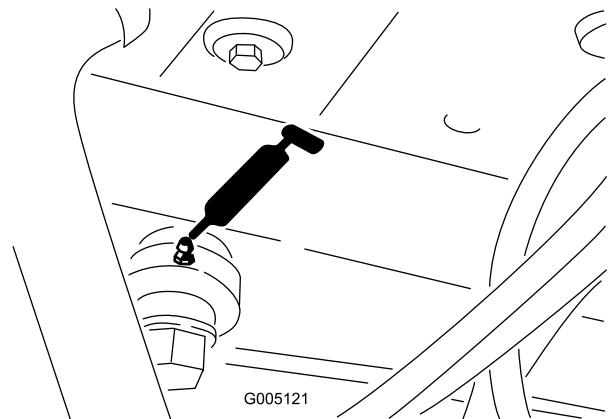

Figure 28
- Power steering cylinder (Figure 28)